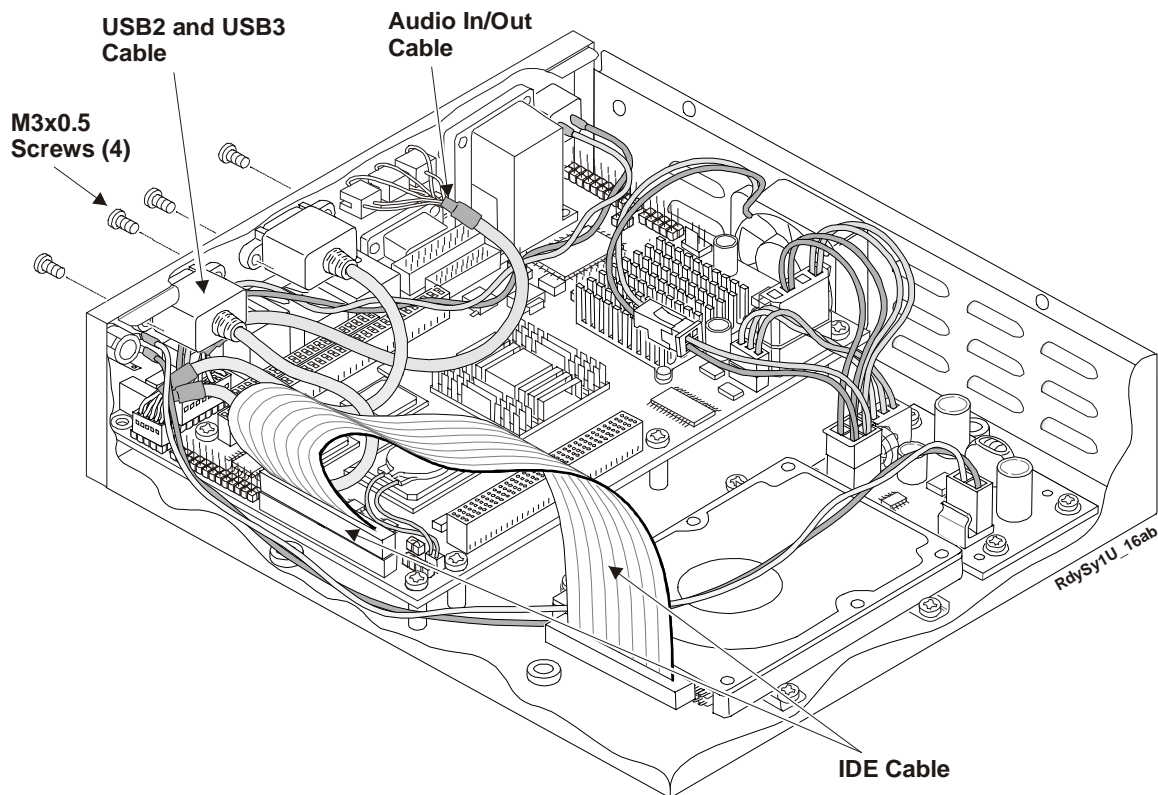

Figure 2-12. Installing IDE, Audio, and USB Cables
1. Reconnect USB2 & USB3 cables to the USB2 & USB3 openings in the I/O panel as shown in Figure 2-12.
- ♦ If you also disconnected the IDE cable from the hard disk drive (HDD) earlier, then re-connect it to the IDE connector on the HDD. The red strip on the cable should match with pin-1 on the HDD and is typically located next to the jumper settings on the HDD. See Figure 2-12.